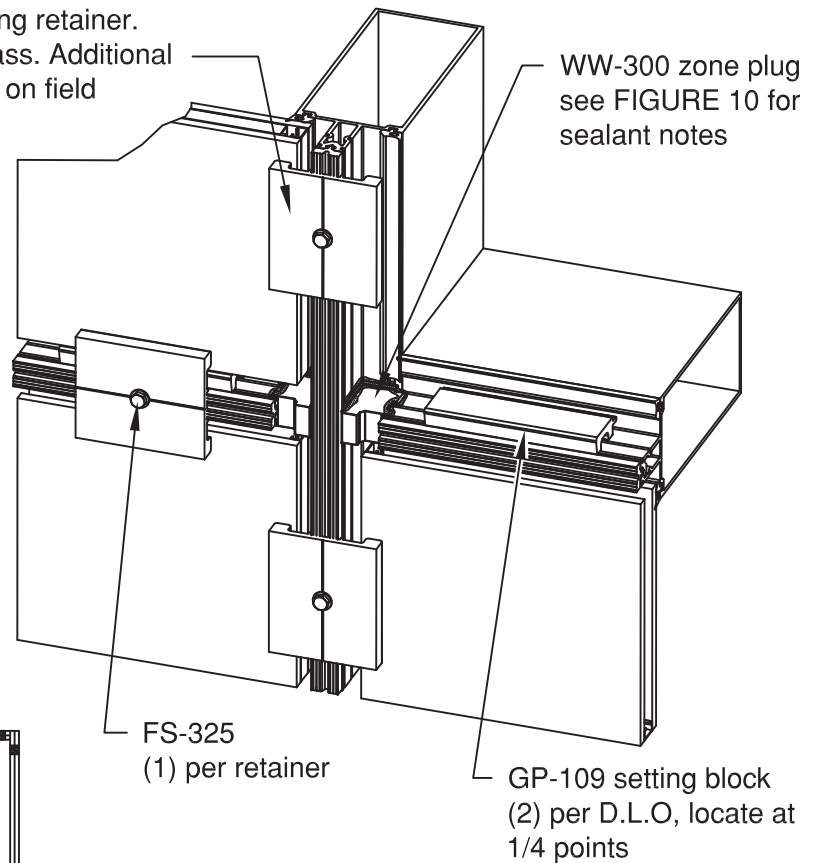

Figure 14
- Full length pressure plates must be installed if severe weather or high wind loads are anticipated. **SEE FIGURE 14 & 15.**